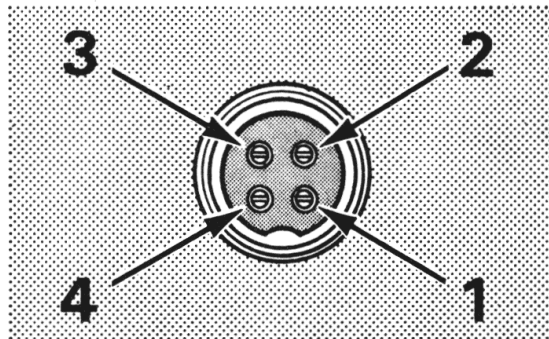

Fig. 3. Microphone plug pin numbers viewed from rear of pin receptacle
5. The wires must now be soldered to the pins as indicated in the above wiring tables. If a vise or clamping tool is available it should be used to hold the pin receptacle body during the soldering operation, so that both hands are free to perform the soldering. If a vise or clamping tool is not available, the pin receptacle body can be held in a stationary position by inserting it into the microphone jack of the front panel. The numbers of the pins of the microphone plug are shown in Fig. 3, as viewed from the back of the plug. Before soldering the wire to the pins, pre-tin the wire receptacle of each pin of the plug.